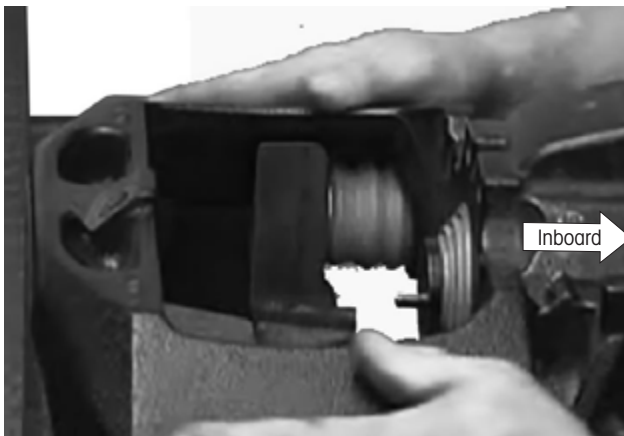

Figure 71: Pushing caliper to inboard side
- Manually push** the caliper completely inboard (Figure 71).